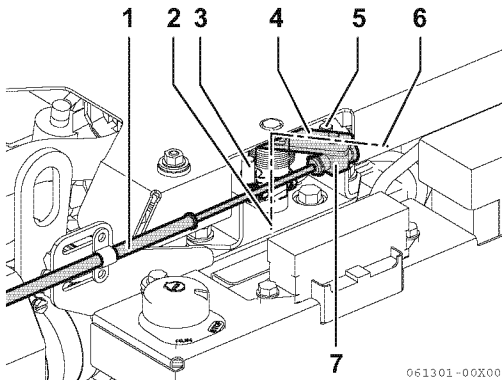

Figure 7
1. To adjust, loosen the adjustment screw (Figure 7, (7)) for the remote control cable and adjust.
2. Adjust the low-speed stop position (Figure 7, (6)) first and then adjust the high-speed stop position (Figure 7, (2)), with the adjustment screw on the remote control lever (Figure 7, (4)).